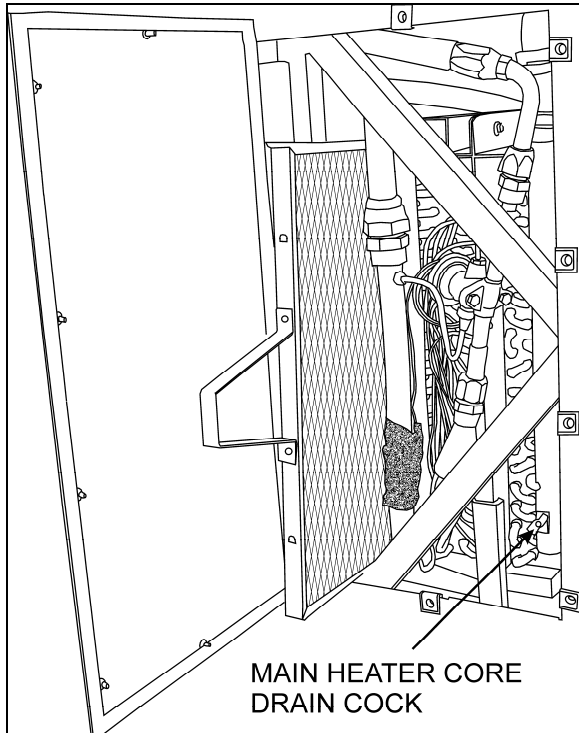

FIGURE 40: EVAPORATOR COMPARTMENT 22327
4. Open drain cock in bottom of heater core, you can unfasten a hose connection on top of heater core (Fig.40) in order to allow air to enter while draining.
Whenever the heating system has been drained and refilled, or the system has run low on coolant and coolant has been added, it is necessary to bleed air from heating system. Locate the manual vent illustrated in Figure 40, and open momentarily until no air escapes from the line.